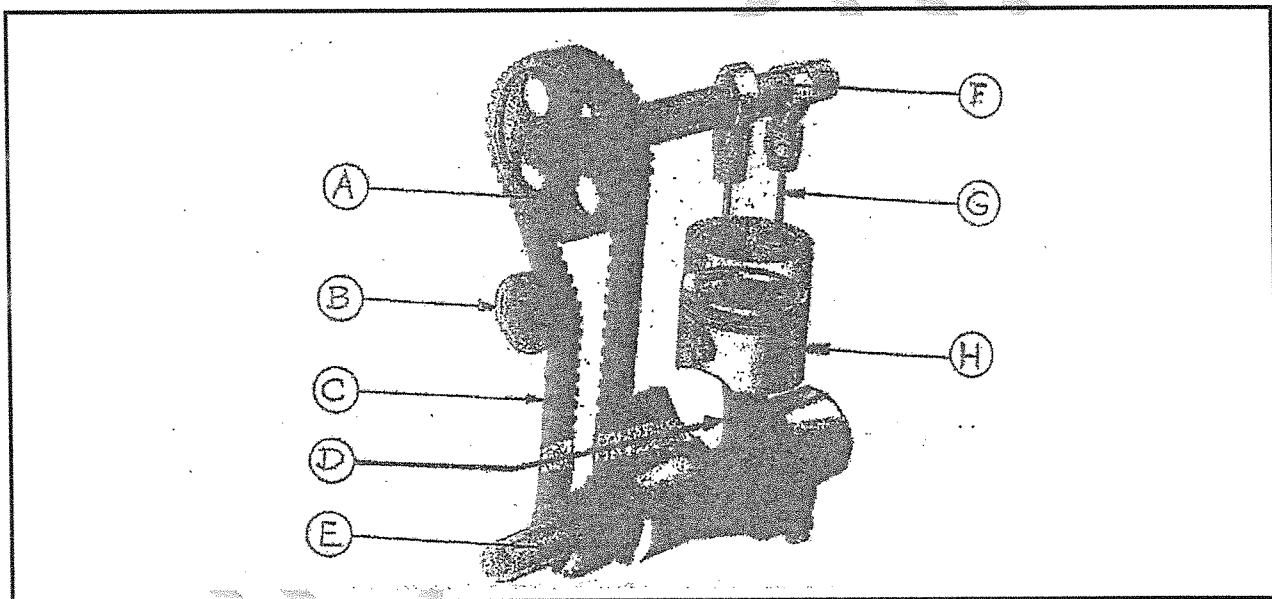

FIGURE 3
- 3.4 FIGURE 3 below shows the parts of an internal combustion engine. (8)